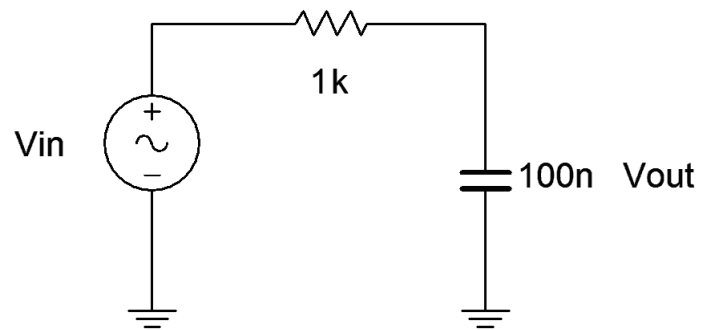

Figure 2
6. To create a simple Bode plot, the lag network of Figure 2 will be used. Assemble this circuit and record its theoretical critical frequency in Table 2.
14. Build the lag network of Figure 2 in a simulator and run an AC Analysis. Be sure to run this from at least one decade below the critical frequency to at least one decade above. Also, use a decibel scale for the gain amplitude. Compare the results to the Bode plot generated in Step 13 and include this graph with the technical report.